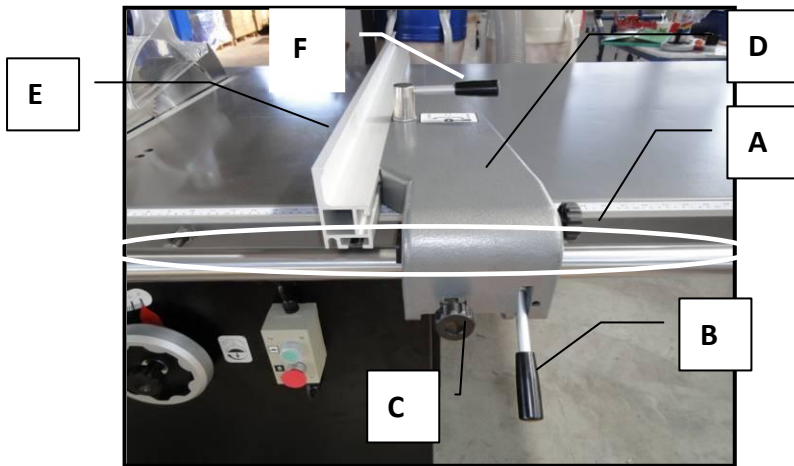
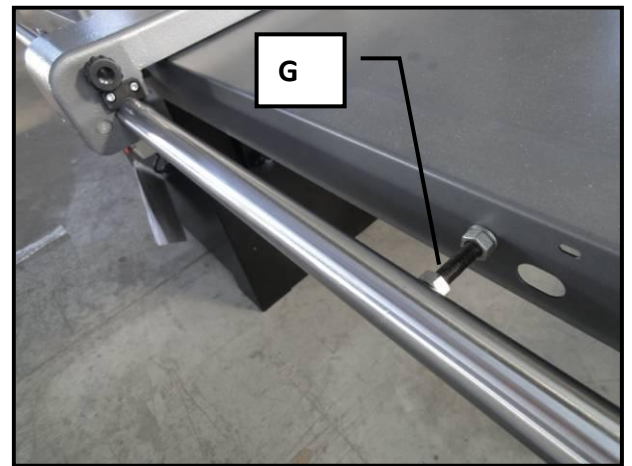

Figure 3-4.1
Figure 3-4.1a
2. Check that the extension table is level and parallel with the main table by placing the fence **E** (see Fig. 3-4.1) on both cast iron table & extension table as Fig. 3-3.1a. The extension table must be **Level and parallel** with the cast iron table. If it has to be lower, the acceptable distance is less than 0.2mm.
1. Insert the studs G (Fig. 3-4.1a) of the round bar into the position A (Fig. 3-4.1) of cast table and extension table. Then put the washer and nut at the back side of the table, and fasten it in position (there are 4 studs for fixing the round bar).
3. Slide rip fence seat D (Fig. 3-4.1) into round bar through metal locker, then rotate it **90° counter clockwise**.
Note: Move handle B (Fig. 3-4.1) up to release rip fence, down to lock the rip fence.
4. Mount the fence E (Fig. 3-4.1) to the slide rip fence seat.